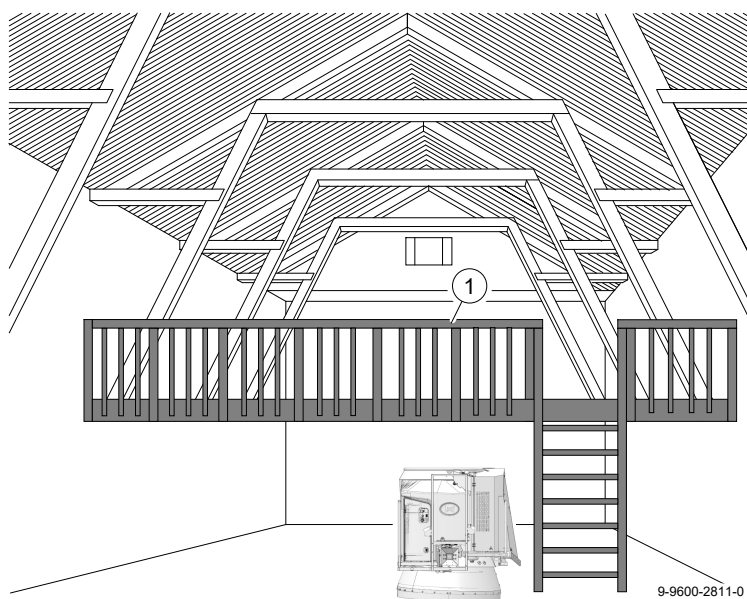

Figure 22. Stairway and attic
- If the route of the Mixing and Feeding Robot is under an accessible attic or stairway (see figure 22 on page 2-33), these must have a railing (1) installed (according to NEN-EN-ISO 14122). This prevents people from falling into the Mixing and Feeding Robot.